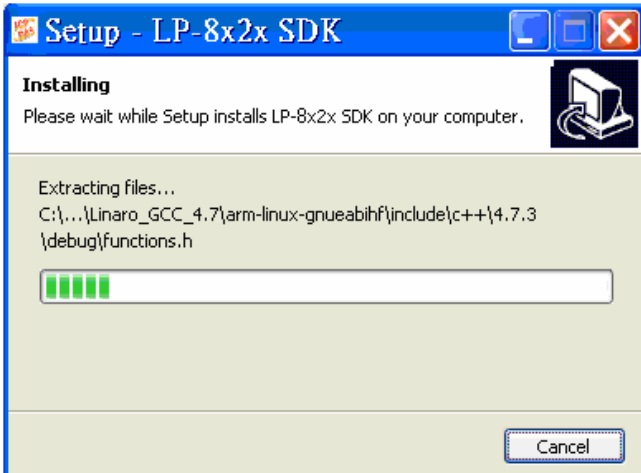

Fig. 2-12
5. The LP-8x21 SDK files will be extracted and installed and a progress bar will be displayed to indicate the status, refer to Fig 2-12.